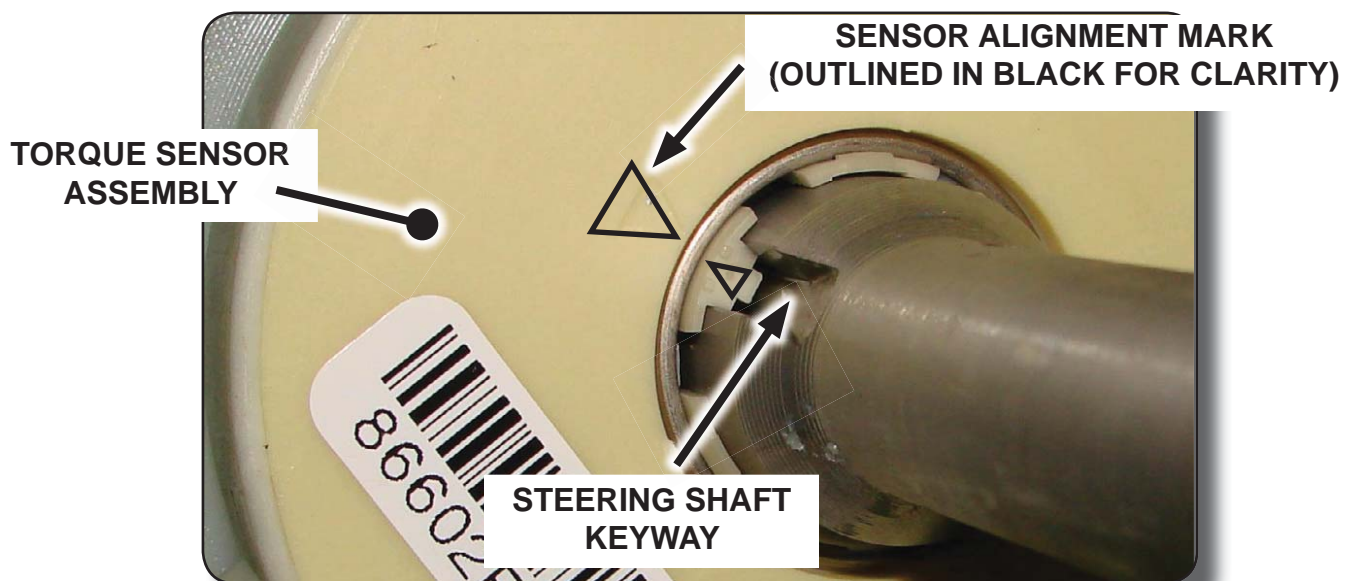

FIGURE 13
18. Before removing the old torque sensor assembly, verify the steering shaft key-way is aligned with the sensor alignment mark. This will ensure that the steering input shaft is in the correct position for installation of the sensor alignment tool. (If necessary, have an assistant bump the front tires left or right until the sensor is perfectly aligned.) See Figure 13.